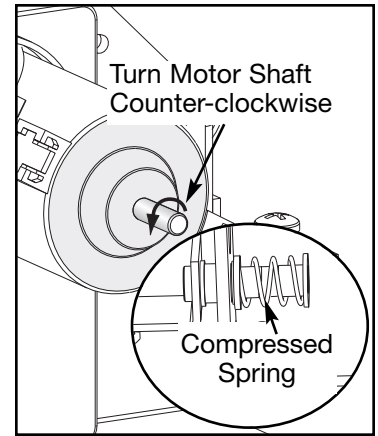

Figure 7
- A. Tighten the belt by turning the motor shaft counter-clockwise until the spring is compressed and the two bushings inside the spring touch each other. See Figure 7. **NOTE:** When you let go of the motor shaft the spring will decompress slightly.